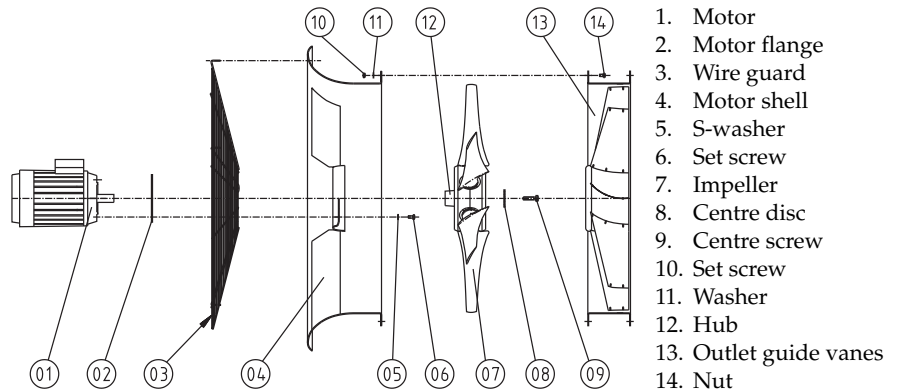

Figure 7. Dismounting/mounting of types ACG and ACP
Prior to commencing the work, switch off the current and disconnect the motor cable. Next, dismount any ducts and downstream guide vane arrangement (fig. 7, items 13, 10, 11, and 14) on the fan outlet side.
After servicing remount the motor, check that the motor flange (fig. 7, item 02) is correctly located and that the motor shaft is concentrically placed in the fan casing, before tightening the bolts (item 06).